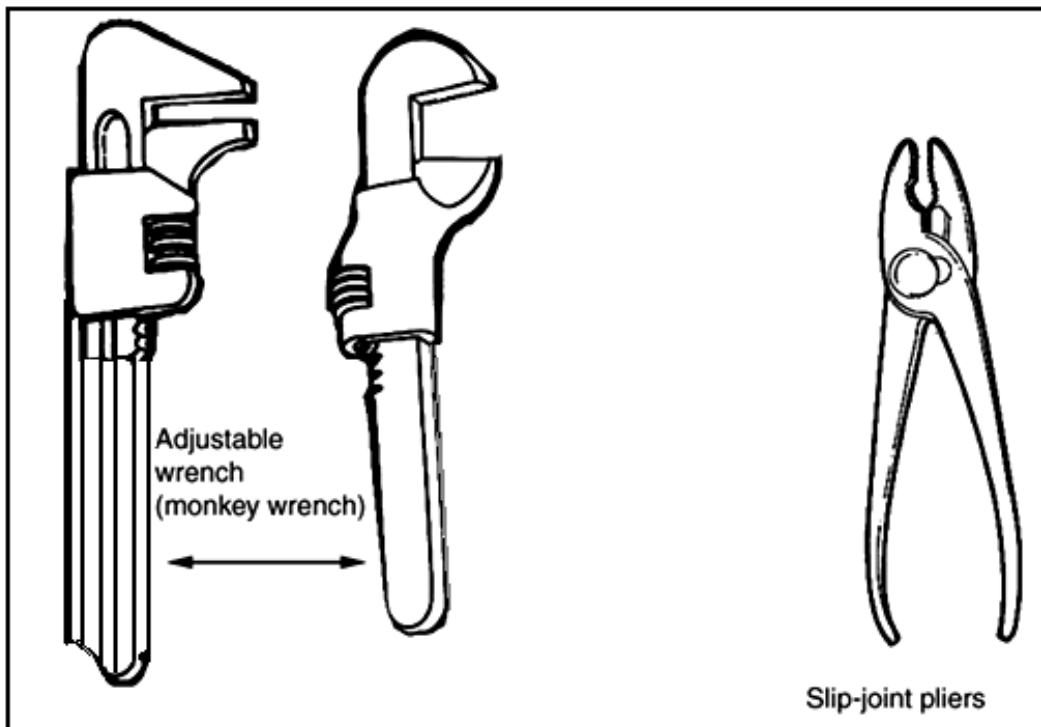

Figure 052-248-1000-4
(1) Apply a thin film of oil to the metal parts of the wrench before storing.
(2) Remove the oil before use in order to prevent injury or damage.
(3) Cover the wrench with a rust preventive compound, and carefully store in a dry location (for long-term storage).
b. Maintain the slip-joint pliers and the adjustable (monkey) wrench (Figure 052-248-1000-4). Remove dirt and grease with a clean rag, and apply a light coat of oil after each use.